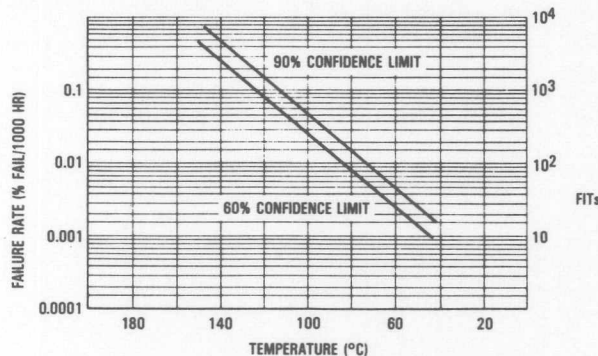

Figure 1
A complete summary of accelerated life test data is presented in Tables 1 and 2, and Figure 1. Accelerated life testing is also referred to as high temperature operating life testing or high temperature reverse bias testing.
* See Figure 1 which depicts failure rate versus temperature.
A complete summary of accelerated life test data is presented in Tables 1 and 2, and Figure 1.
*See Figure 1 which depicts failure rate versus temperature.